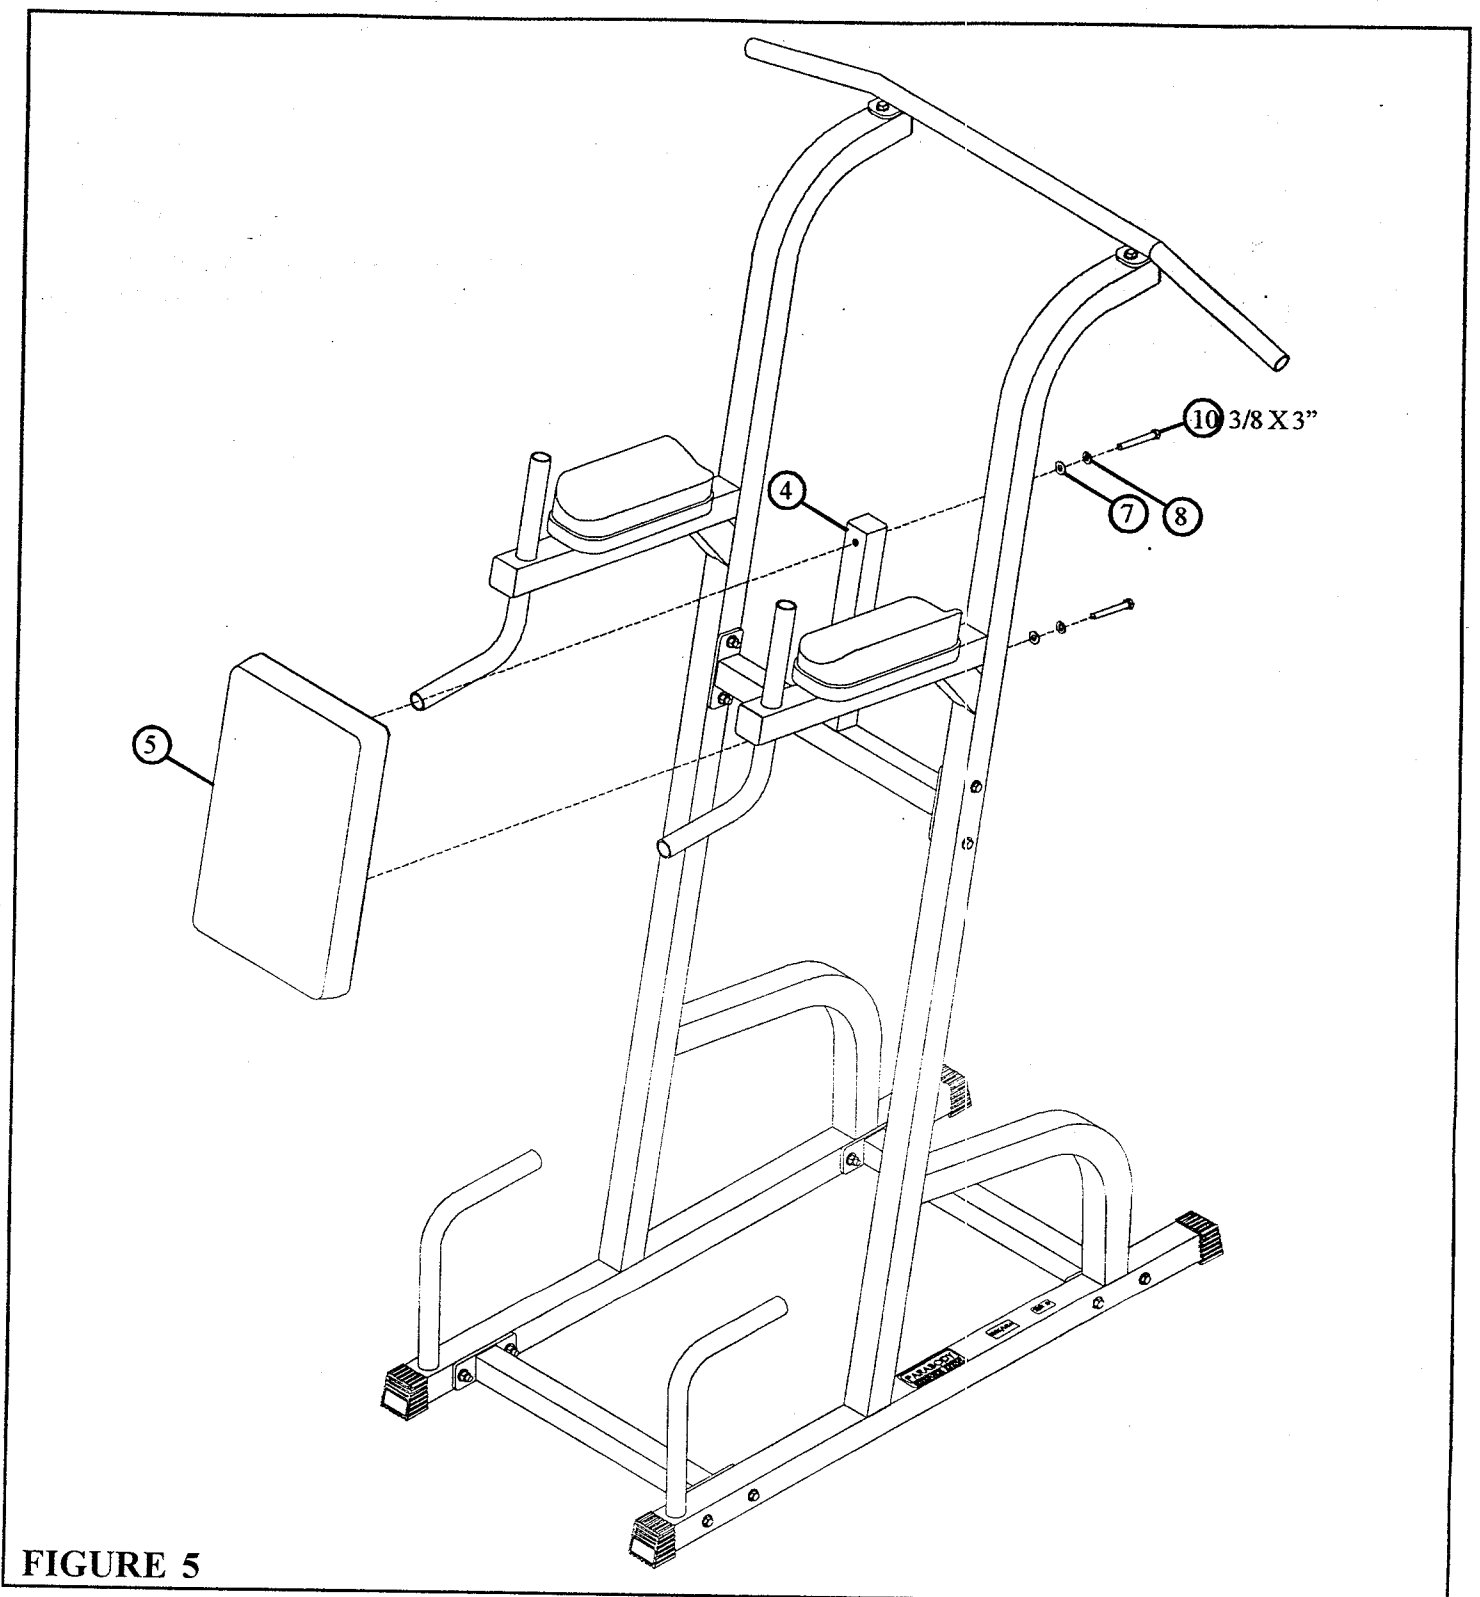

**FIGURE 4**
- **SECURELY** attach two **ARM PADS (6)** to the **VKR SIDES (3)** using four **3/8 X 3" BOLTS (10)**, four **3/8" LOCK WASHERS (8)**, and four **3/8" FLAT WASHERS (7)** as shown in **FIGURE 4**. (**NOTE: Place the high side of ARM PAD toward the outside.**)